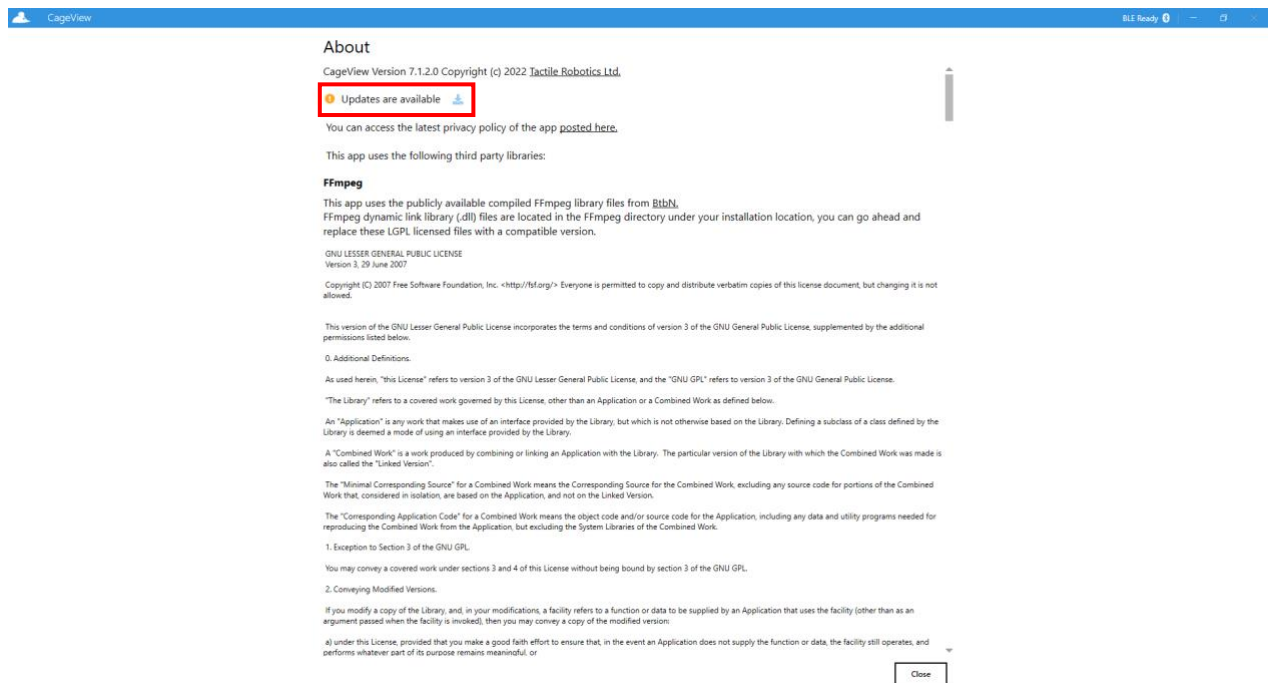

Figure 4. Updates are available warning
4.1. If the CageView App is outdated, the information button () on the bottom of the main window will blink. Click the information button to see an alert stating, "Updates are available," as shown in **Figure 4**.